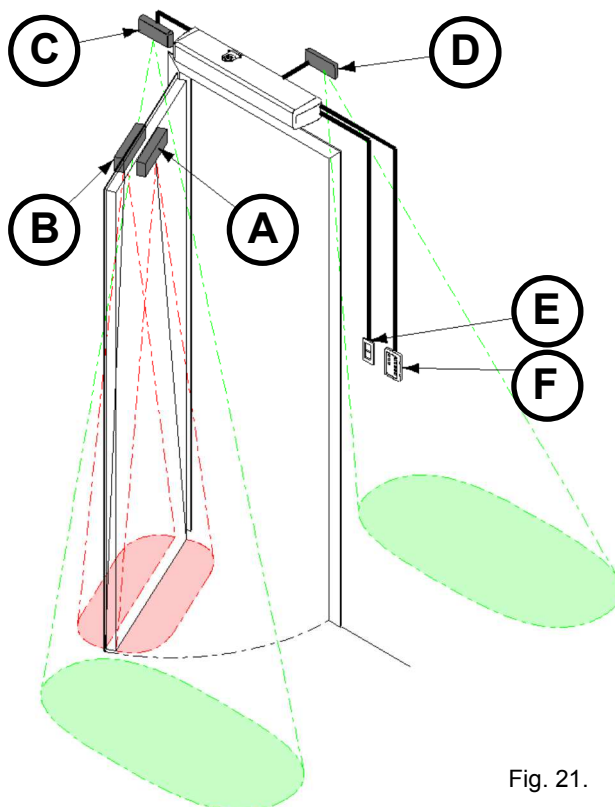

Fig. 21.
5.9 B **!** WARNING: Do not invert the power supply and earth cables. It has to be possible to section the power from the mains junction box using a two-pole switch (see Fig. 21 E) with a 3mm minimum contact opening (not supplied).
- Safety sensors (see Fig. 21 A and B): they are mounted on the leaf and control the nearby area to detect possible obstacles, and stop movement or invert it to prevent blows, crushing or other sources of danger;
- Detection sensors (see Fig. 21 C and D): normally mounted on the wall, to detect when persons approach the door and control the opening.
Detection sensor (radar) on entry (See Fig. 21 D)	See Fig. 25
Detection sensor (radar) on exit (See Fig. 21 C)	See Fig. 26